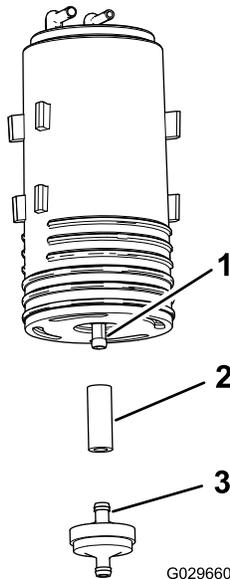

Figure 49
4. Remove the carbon-canister filter and the short section of hose from the lower fitting of the old carbon canister (Figure 49).
5. Install the hose onto the lower fitting of the new carbon canister (Figure 49).
6. Insert the fitting of a new carbon-canister filter into the hose (Figure 49).